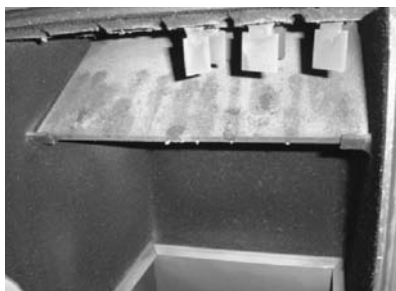

Figure 10-3: Combustion chamber baffle
- The baffle (in the top of the combustion chamber) is correctly located on the fixing brackets at both sides. Refer to Figure 10-3.